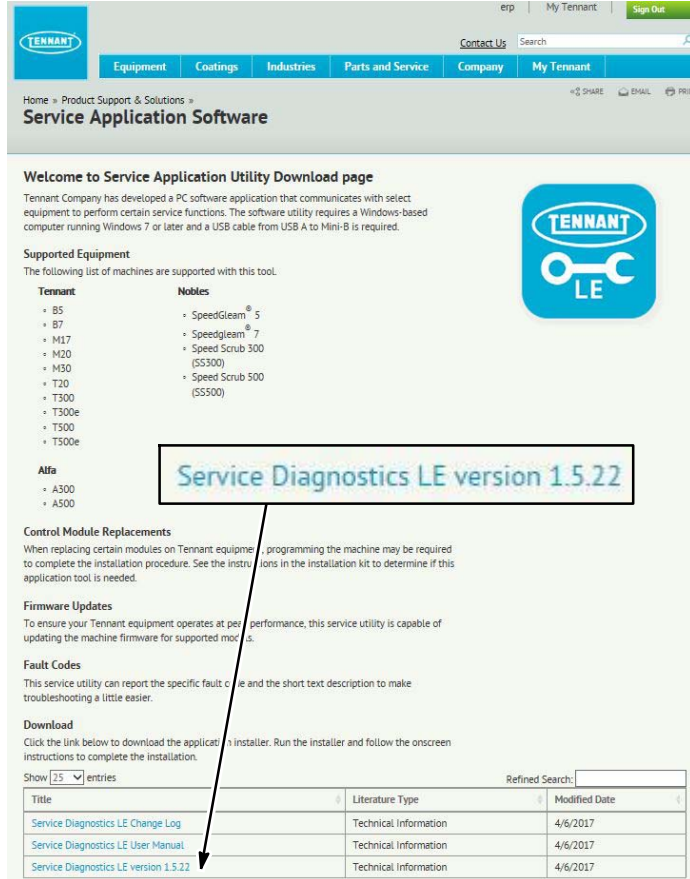

Fig. 18
3. Within the Service Application Software page, click on the link titled **“Service Diagnostics LE version x.x.xx”** to download the application installer then click the Save button (Figure 18).